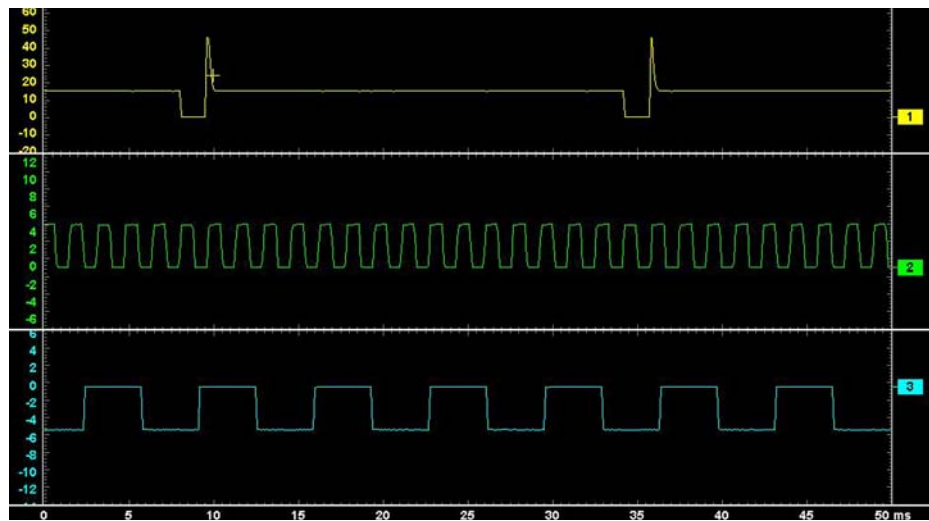

Figure 7-22 Sample 3 Windows display
- **3 windows**—shows three traces, one below another, on the same screen (Figure 7-22).